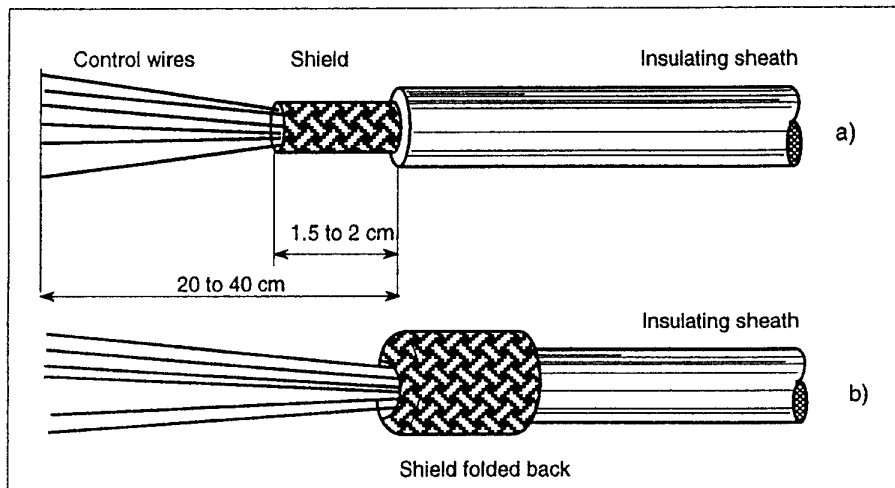

Figure 3-8 Control cable stripping
- **Strip** the shielded cable as shown in figure 3-8,a.
- **Fold back** the shield on the insulating sheath (figure 3-8,b)